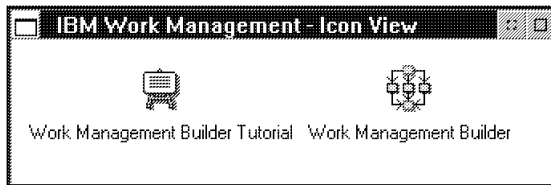

Figure 51. IBM Work Management Window
1. Double-click on the Work Management Builder Folder icon on the OS/2 desktop. You see the IBM Work Management window shown in Figure 51.